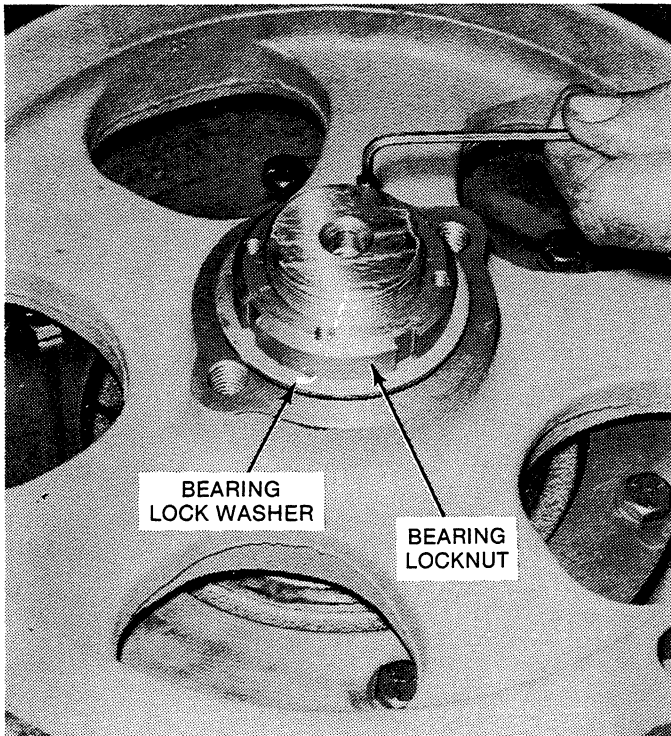

Figure 6-26. *Removing or Installing Dog-Point Screws on Bearing Locknut.*
9. Turn the unit over and remove dog-point setscrew (Figure 12-2, 45) from the bearing locknut (41) on the forward shaft (44). See Figure 6-26.